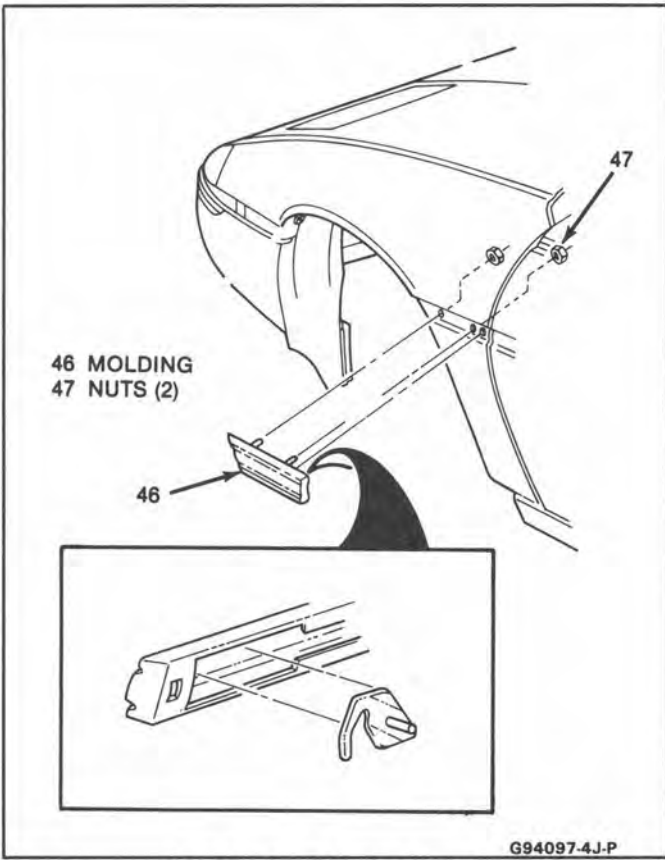

Fig. 11-Front Fender Molding
**↔** Remove or Disconnect (Figure 11)
2. Two nuts (47)
3. Molding (46)
**↔** Install or Connect (Figure 11)
1. Molding (46)